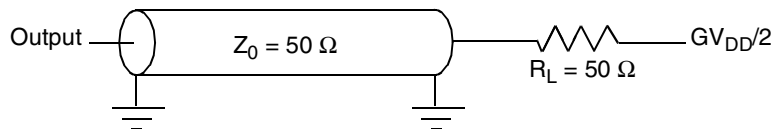
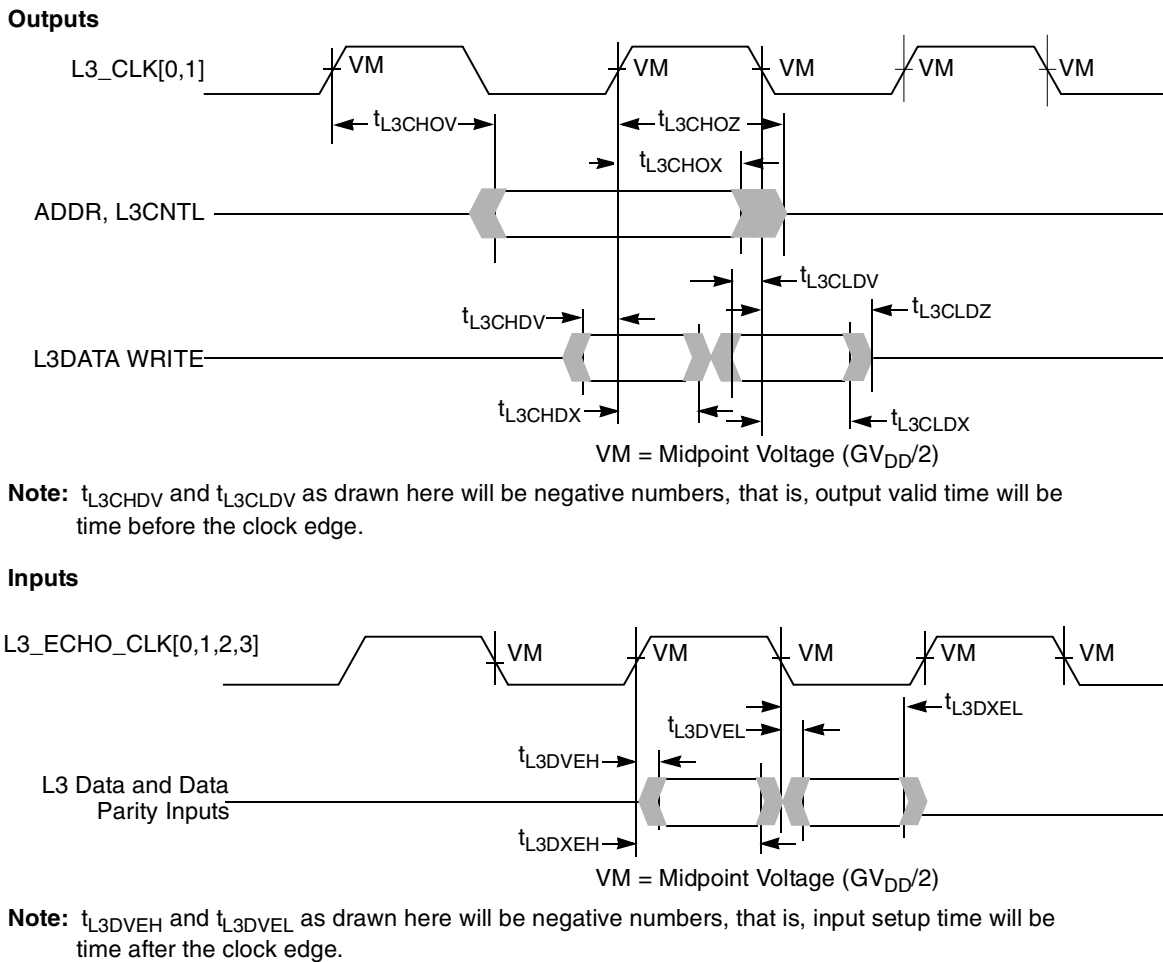
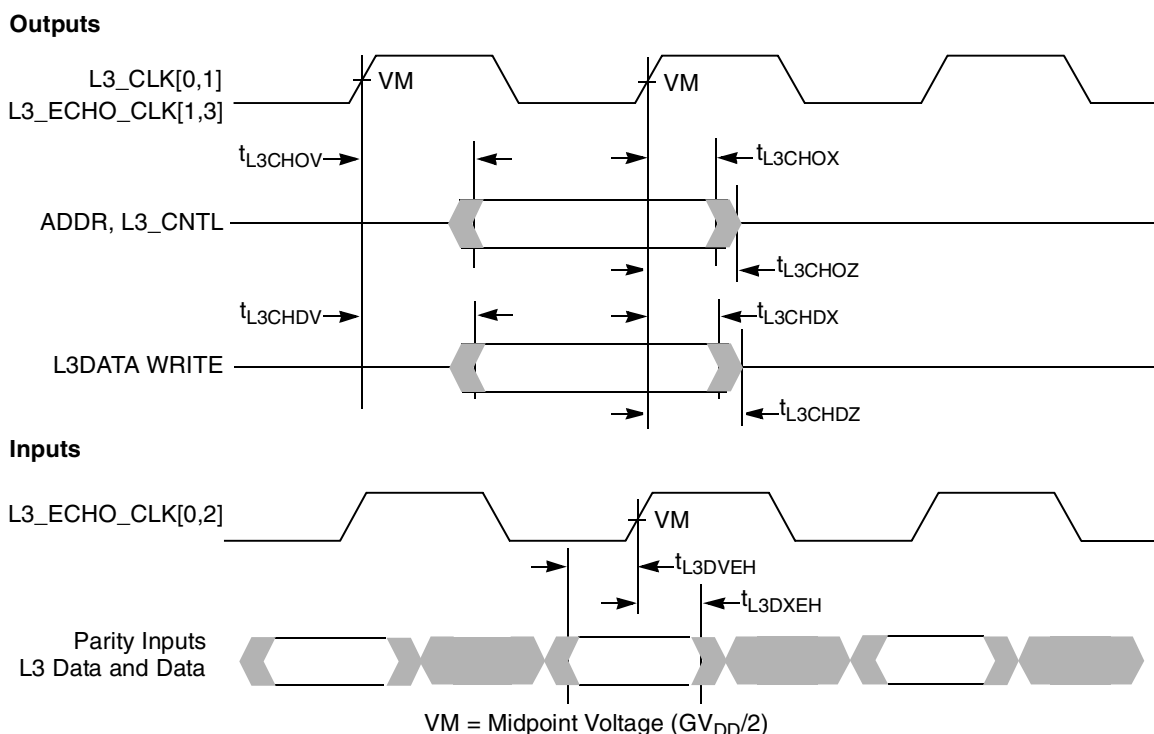

Figure 8. AC Test Load for the L3 Interface
Figure 10. L3 Bus Timing Diagrams for L3 Cache DDR SRAMs
Figure 12. L3 Bus Timing Diagrams for Late Write or PB2 SRAMs
- For high speed operations, L3 interface address and control signals should be a ‘T’ with minimal stubs to the two loads; data and clock signals should be point-to-point to their single load. Figure 8 shows the AC test load for the L3 interface.
Table 12 provides the L3 bus interface AC timing specifications for the configuration as shown in Figure 9, assuming the timing relationships shown in Figure 10 and the loading shown in Figure 8.
- For DDR, all input specifications are measured from the midpoint of the signal in question to the midpoint voltage of the rising or falling edge of the input L3_ECHO_CLK n (see Figure 10). Input timings are measured at the pins.
- For DDR, the input data will typically follow the edge of L3_ECHO_CLK n as shown in Figure 10. For consistency with other input setup time specifications, this will be treated as negative input setup time.
- All output specifications are measured from the midpoint voltage of the rising (or for DDR write data, also the falling) edge of L3_CLK to the midpoint of the signal in question. The output timings are measured at the pins. All output timings assume a purely resistive 50- Ω load (see Figure 8).
- For DDR, the output data will typically lead the edge of L3_CLK n as shown in Figure 10. For consistency with other output valid time specifications, this will be treated as negative output valid time.
Figure 10 shows the L3 bus timing diagrams for the MPC7455 interfaced to MSUG2 SRAMs.
Table 13 provides the L3 bus interface AC timing specifications for the configuration shown in Figure 11, assuming the timing relationships of Figure 12 and the loading of Figure 8.
2. All input specifications are measured from the midpoint of the signal in question to the midpoint voltage of the rising edge of the input L3_ECHO_CLK n (see Figure 10). Input timings are measured at the pins.
3. All output specifications are measured from the midpoint voltage of the rising edge of L3_CLK n to the midpoint of the signal in question. The output timings are measured at the pins. All output timings assume a purely resistive 50-Ω load (see Figure 10).
Figure 12 shows the L3 bus timing diagrams for the MPC7455 interfaced to PB2 or late write SRAMs.